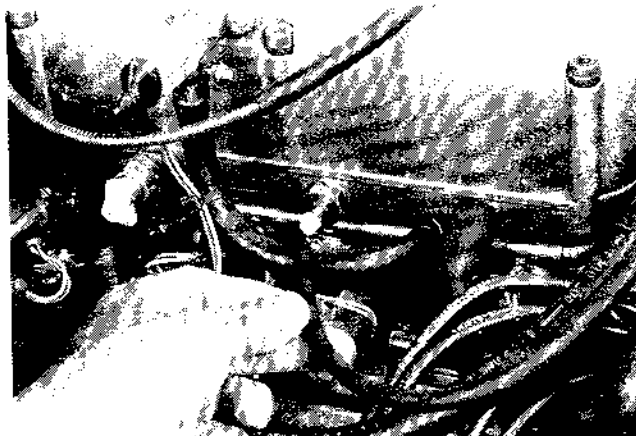

Fig.11
- 2 Disconnect the vacuum connection to the vehicle ventilation system and seal the plenum chamber (as fig 11)